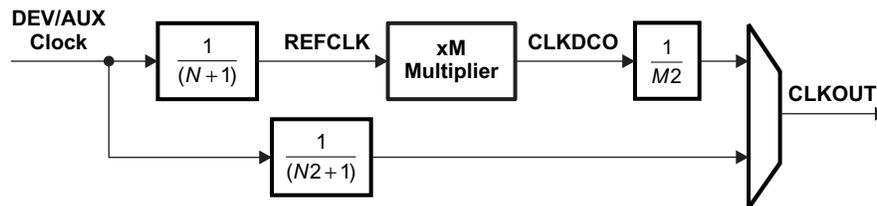
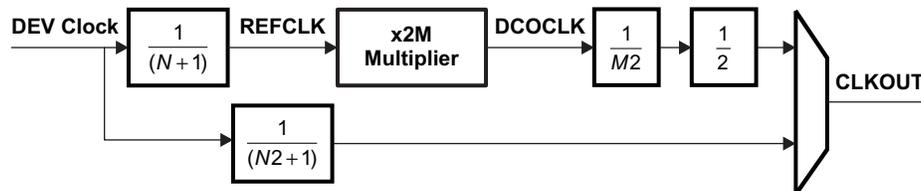

Figure 7-17. Top-Level PLL Simplified Block Diagram
Figure 7-18. PLL_ARM Simplified Block Diagram
The device contains 10 top-level PLLs, and embedded PLLs (within the ARM Cortex-A8, PCIE, and CSI) that provide clocks to different parts of the system. Figure 7-17 and Figure 7-18 show simplified block diagrams of the Top-Level PLL and PLL_ARM. In addition, see the System Clocking Overview (Figure 7-7) for a high-level view of the device clock architecture including the PLL reference clock sources and connections.
(1) This parameter describes the limits on the programmable multiplier value M. The multiplication factor for the PLL_ARM is equal to 2 * M (also see Figure 7-18).
(2) The PLL Multiplier supports fractional values (up to 18-bits of fraction) except when the PLL Multiplier is < 20 OR > 2045.